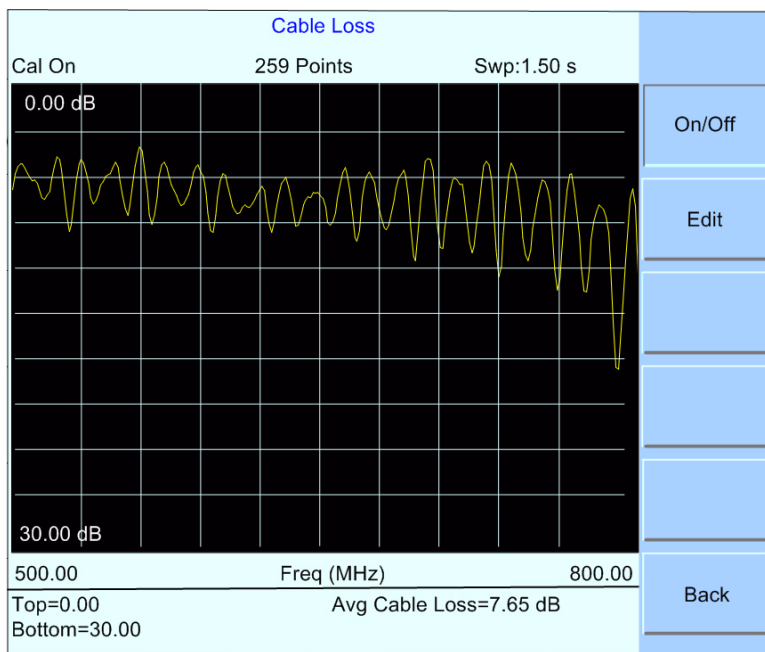

Figure CL-1. Cable Loss Measurement
8. The average cable loss value over the swept frequency range is displayed in the bottom part of the display, as shown in Figure CL-1.